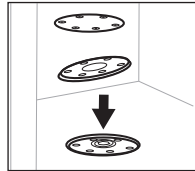

Figure 2
3. Remove the cover plate, gasket and cap, to reveal the mounting hole, and set aside for later use. (Figure 2)